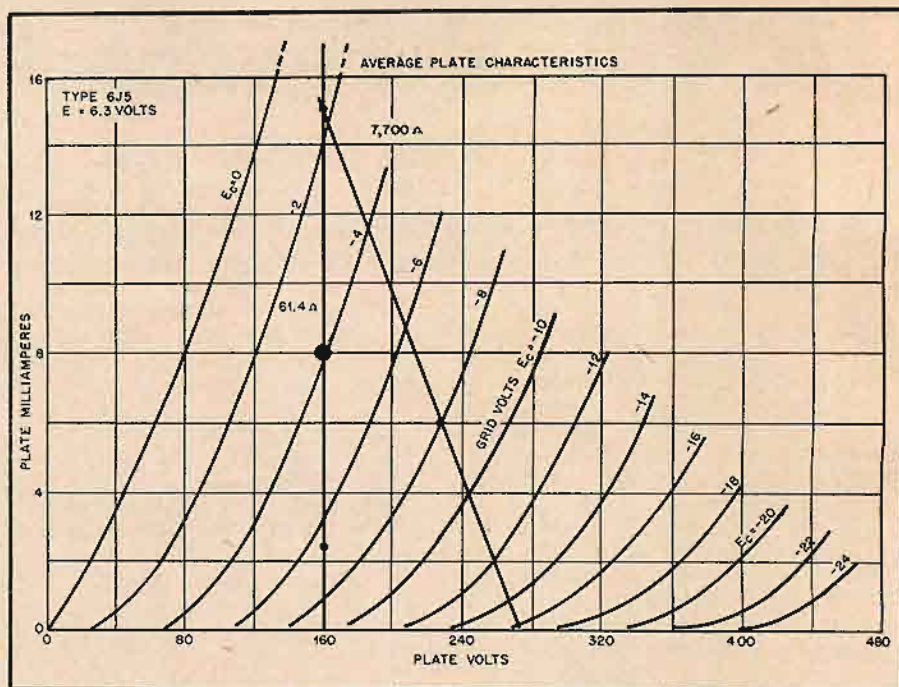

Fig. 3. Plate family for 6J5 tube to show effect of feedback on tube performance.
The feedback voltage developed across R_o will be the difference between the total output E_p of -50.0 volts and E_o from Eq. (18) equal to -27.5 volts or -22.5 volts. When β is increased to 0.50, the voltages E_o and E_c will be equal in amplitude, a condition necessary for phase-inverter service. Cathode-follower operation results when β is made equal to unity, in which case the entire plate load is R_o , since R_o is zero in this case. Notably in television work, the load impedances often used with cathode followers are much lower than plate-loaded applications. In these applications, the gain A is reduced considerably, thereby producing smaller feedback voltages across the load. As long as load impedances are fairly high, normal plate-voltage values can be used since the plate current will be limited by the IR drop in the load. With loads in the neighborhood of 75 to 300 ohms, plate voltages must be reduced considerably; this is confirmed by reference to the 6J5 curve in Fig. 3. A low value of load will cause the load line to approach the vertical as the load impedance approaches zero. The operating point must be chosen so the tube will not be driven into either cutoff or saturation regions. The 6J5 is shown operating with 160 plate volts, which will cause a plate dissipation of 1.28 watts, one-half of its rated 2.5 watts. A bias of 4.0 volts places the operation about midway on the graph at this point; thus the 8-ma plotted current will necessitate a load resistor of 500 ohms to produce the proper bias. Assuming the tube is being used to feed a properly terminated 70-ohm transmission line, the tube as a generator will actually look into a
61.4-ohm load, which is the parallel combination of 500 and 70 ohms. The amplifier gain A with this load from Eq. (1) will be
From Fig. 3, a grid drive of approximately 2.5 volts is indicated since anything greater will drive the tube into nonlinear operation. A 2.5-volt drive will swing the plate current between 2.5 and 15 milliamperes. The output E_c will be